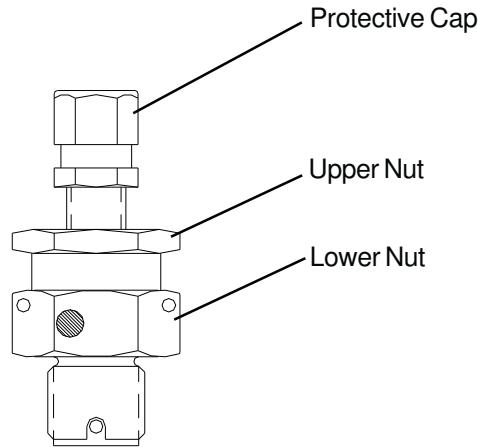

Figure 2 – VA-200932 Gas Valve Assembly
2. Remove the protective cap from the gas valve assembly (See Figure 2).
5. Place a 3/4 inch wrench on the upper nut (See Figure 2) of the gas valve assembly and turn in a counter clockwise direction until the pre-charge pressure on the pressure gage is indicated.
5. Place a 3/4 inch wrench on the upper nut (See Figure 2) of the gas valve assembly and turn in a counter clock-wise direction until the pre-charge pressure on the pressure gage is indicated.
9. Once the desired pressure has been reached, lock the upper nut of the gas valve assembly (See Figure 2) and torque between 90 – 110 in-lbs by turning it clock-wise.
1. After fully discharging the nitrogen from the accumulator, remove the gas valve assembly by turning the lower nut counter clock-wise (See Figure 2).